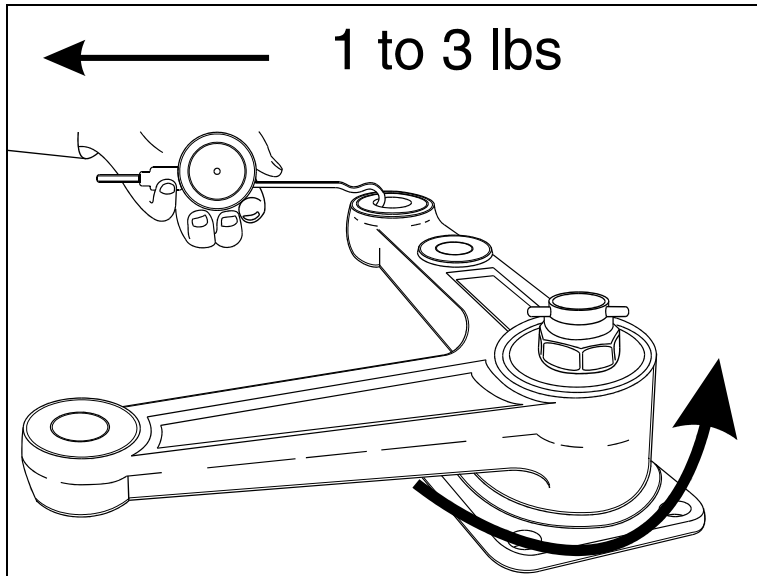

FIGURE 5: APPLICATION OF 1 TO 3 POUNDS LOAD
9. Unscrew nut until bell crank or idler arm starts to turn by the application of 1 to 3 pounds load (Fig. 5).